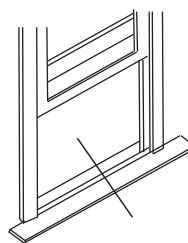

Fig. 11
1. Open window and mark center of window inner sill as shown (Fig. 11).